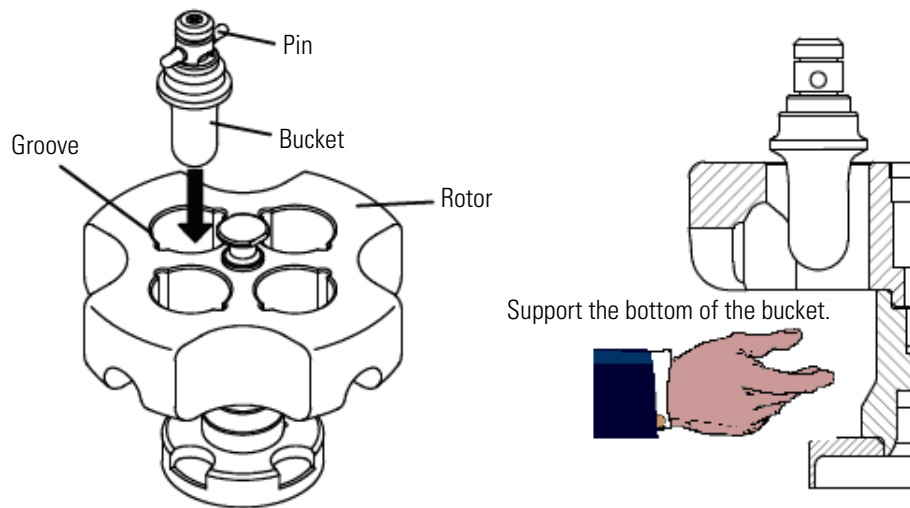

Figure 3-10 Removing/installing buckets
Install all of the numbered buckets from the upside of the rotor in the corresponding position of the rotor. At that time, support the bottom of the bucket. Make sure that both pins properly hang on the rotor groove (Figure 3-10)
- c. Loosen the cap of the bucket. When removing buckets from the S50-ST rotor, see Figure 3-10.